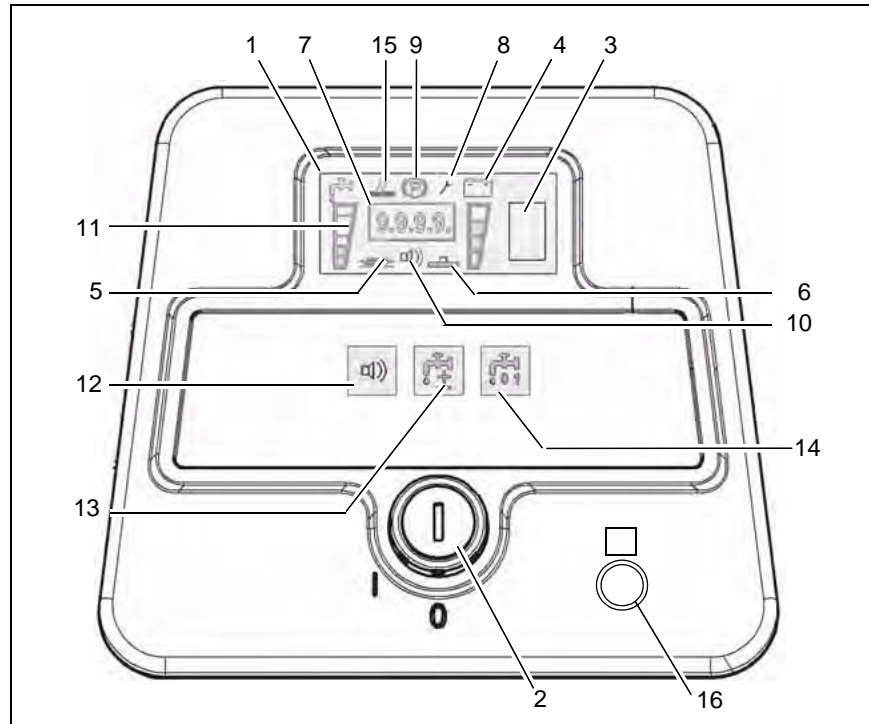

Fig.4
3. Switch on solution supply by means of the tip-switch (Fig. 4/14).
4. Adjust the solution amount by means of the tip-switch (Fig. 4/13) when brush head lowers solution supply switches on automatically.
Display (Fig. 4/1)
Battery charge indication (Fig. 4/3)
LDS indicator (Fig. 4/4)
Symbol brush drive (Fig. 4/5)
Symbol suction turbine drive (Fig. 4/6)
Hourmeter (Fig. 4/7)
Service indicator (Fig. 4/8)
Parking brake symbol (Fig. 4/9)
Silence Kit tip symbol (optional) (Fig. 4/10)
Solution dosage symbol (Fig. 4/11)
Silence Kit tip-switch (optional) (Fig. 4/12)
Solution dosage tip-switch (Fig. 4/13)
Solution supply ON/OFF tip-switch (Fig. 4/14)
Scrubbing tool symbol (optional) (Fig. 4/15)
This symbol appears when scrubbing tool-switch (A) (Fig. 4/16) is switched on